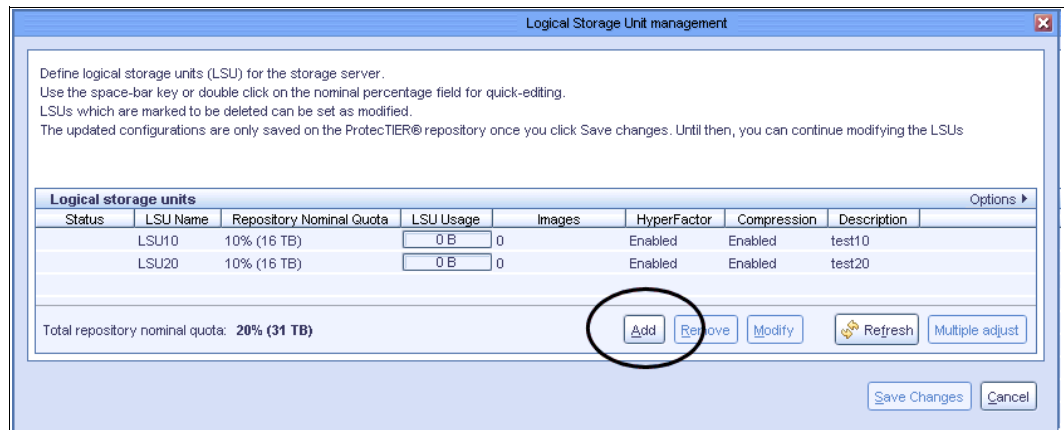

Figure 5-87 Logical Storage Unit management
2. Click **Add** to configure a new LSU on the storage server (Figure 5-87).